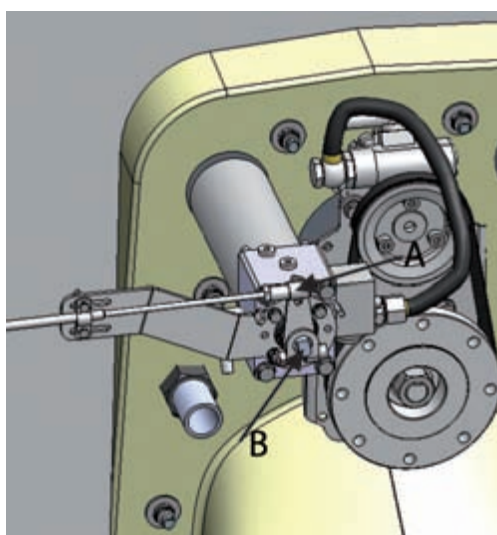

Figure 64. Removing the control cable
1. Detach the control cable from the end of the cylinder operating lever (figure 64, point A).
2. Loosen the operating lever screw (figure 64, point B) but do not pull the lever off the shaft yet.
7. Attach the control cable to the screw at the end of the operating lever (figure 64, point A).